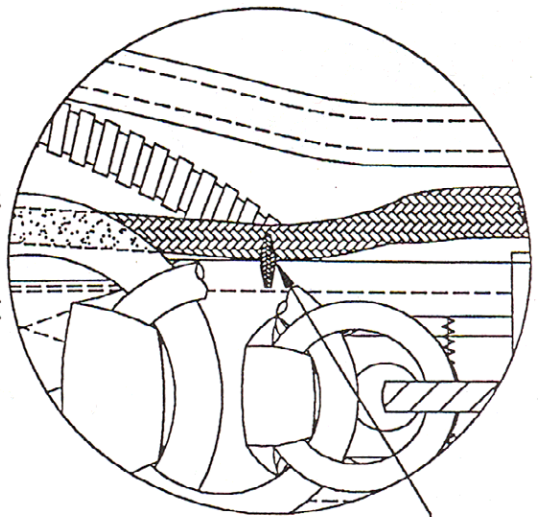

Figure 4A
5) Hand tack the lanyard to the side of the riser using waxed, heavy tacking cord. (Figure 4A)